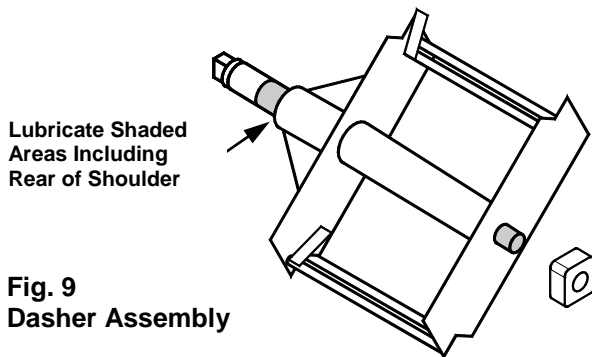

Fig. 9
- a. Apply a 1/4" bead of lubricant to the shoulder of the dasher where the white plastic portion of the assembled rear seal contacts the shaft (Fig. 9).
- c. Assemble and install the rear seal with the rubber portion toward the rear of the dasher (Fig. 9). **DO NOT LUBRICATE THE REAR OF THE SEAL (RUBBER PORTION).**